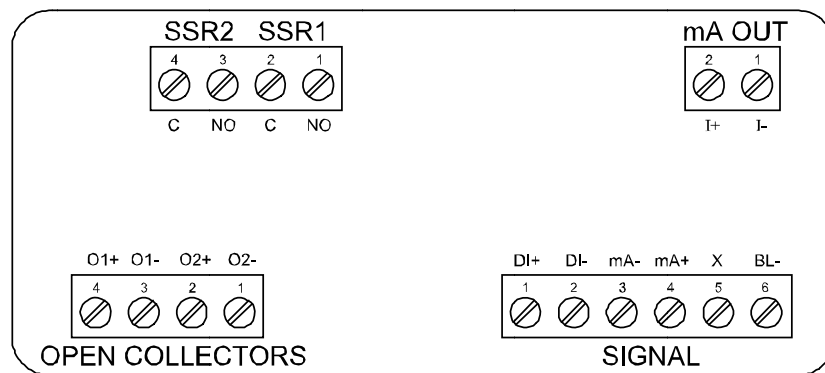

Figure 4. Connector Labeling for Fully Loaded Meter
Signal connections are made to a six-terminal connector labeled SIGNAL on Figure 4. The following figures show a 4-20 mA current loop connected to the meter. The first figure shows the connection without the backlight and the second shows the connection with the backlight (the backlight can be disabled/enabled in the SYSTEM menu). The meter is powered by the 4-20 mA current loop. There are no switches or jumpers to set up for the input. Setup and programming is performed through the front panel buttons or PC-based software.
Relay connections are made to a four-terminal connector labeled SSR1 and SSR2 in Figure 4. Each relay's C terminal is common only to the normally open (NO) contact of the corresponding relay.